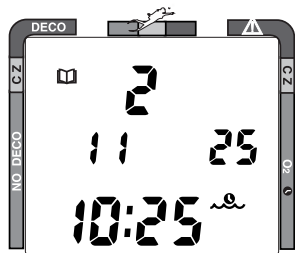

Fig. 52 - Log Mode
- the first screen of the most recent dive will appear (Fig. 52) showing -